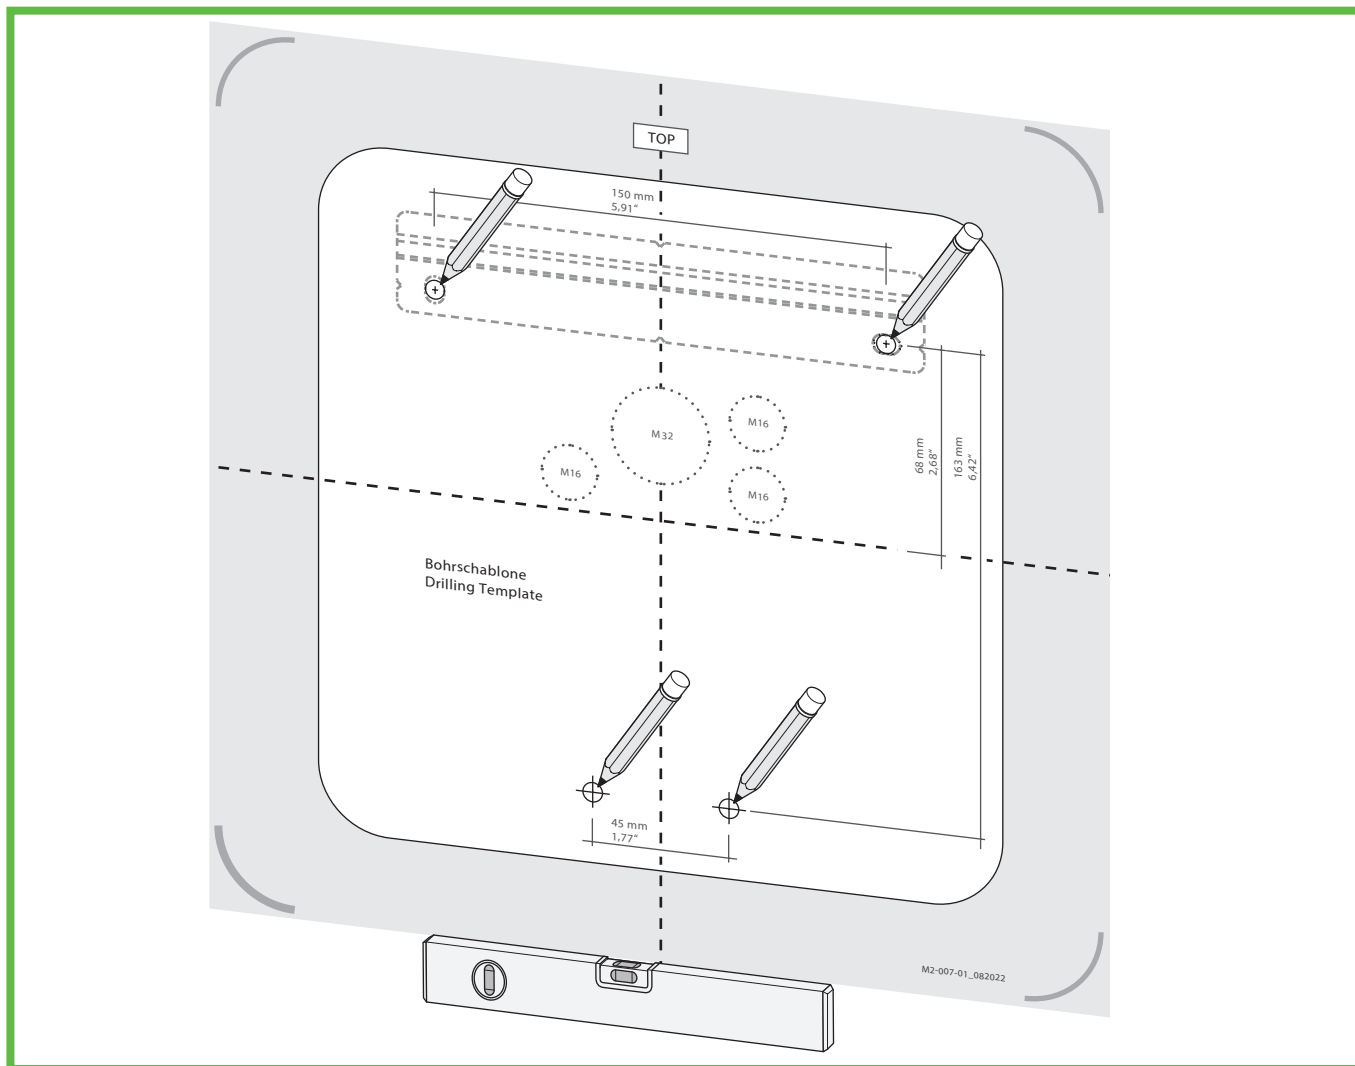

Abb. 7: Mark the fixing points
- ▶ Mark the fixing points of the mounting rail and wallbox (Abb. 7).
- ▶ **Only for cable entry through the rear wall:** Mark the respective cable entries of the wallbox (Abb. 7).